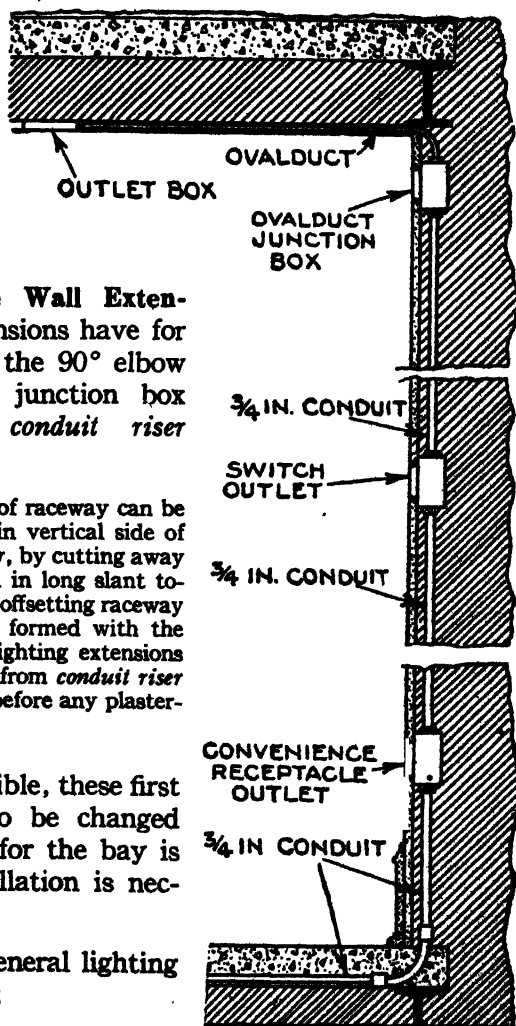

FIG. 5,728.—Conduit riser or starting point of under plaster wiring extension.
**Ceiling and Side Wall Extensions.**—Ceiling extensions have for their starting point the 90° elbow fastened in ceiling junction box which terminates *conduit riser* shown in fig. 5,728.